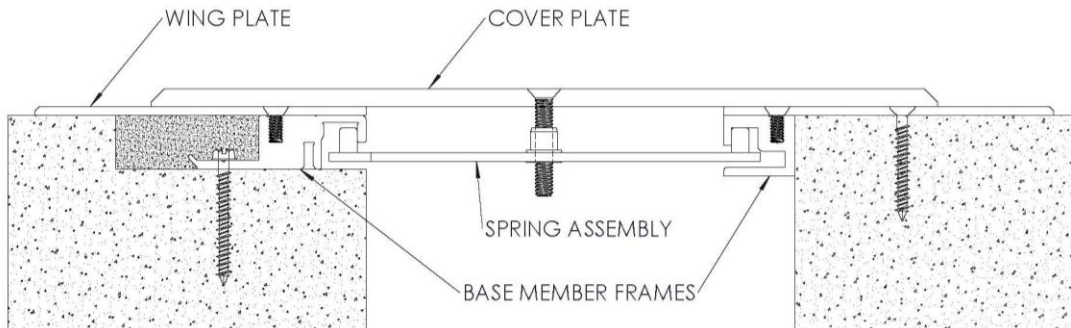

FIGURE 6
6. Position the cover plate centered over the base frame and with the center hole aligned with the spring assemblies. Attach the cover plate to the spring assemblies with the provided spring screws. **DO NOT OVERTIGHTEN. See Figure 6**